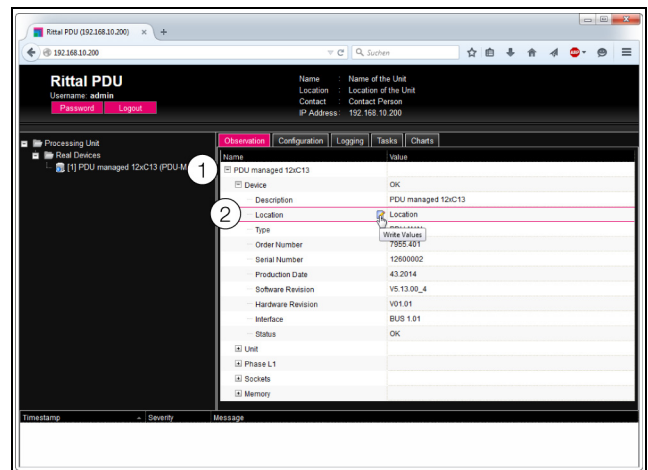

Fig. 31: Select an individual parameter
- One after the other, open the "Master PDU" and "Device" entries by clicking on the "plus" symbol in front of the entry (fig. 31, item 1).
- Position the mouse pointer at the end of the first column in the "Location" line (fig. 31, item 2).